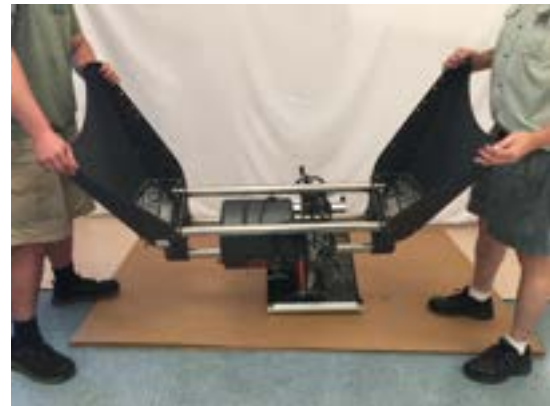

Figure B-23
7. With a helper on one end of the MARK 4 [Shorty] and you on the other, turn over the machine onto the cardboard. See Figure B-23. The worktable will support the machine. Take care not to scratch the table tops. Do not drop the machine, this could break the table.
With a helper on one end of the MARK 4 [Shorty] and you on the other, turn over the machine onto the cardboard. See Figure B-23. The extension table and the worktable will support the machine. Take care not to scratch the table tops. Do not drop the machine, this could break the table.